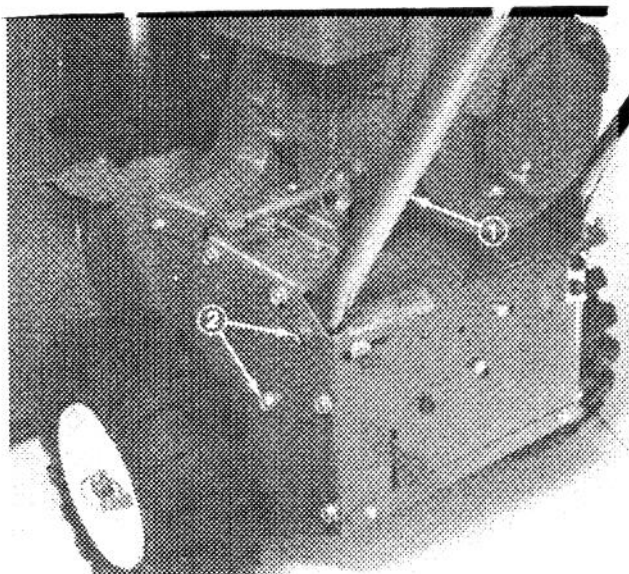

Figure 2
4. Secure handles to side plates with hex flange screws. (Fig. 2).